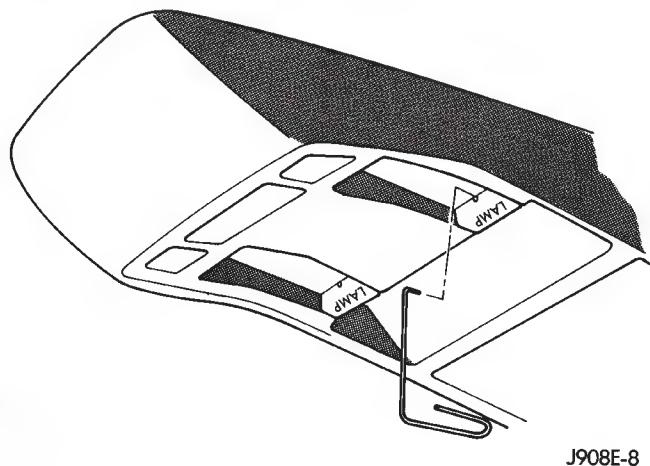

Fig. 3 Map Reading Lamp Lens Removal
- (1) Make a straight hook at the end of a large paper clip or wire (approximately 1.5-mm/0.06-in diameter).
- (2) Insert the wire hook into the hole in the lamp lens and pull downward to detach the lens from the lamp housing (Fig. 3).